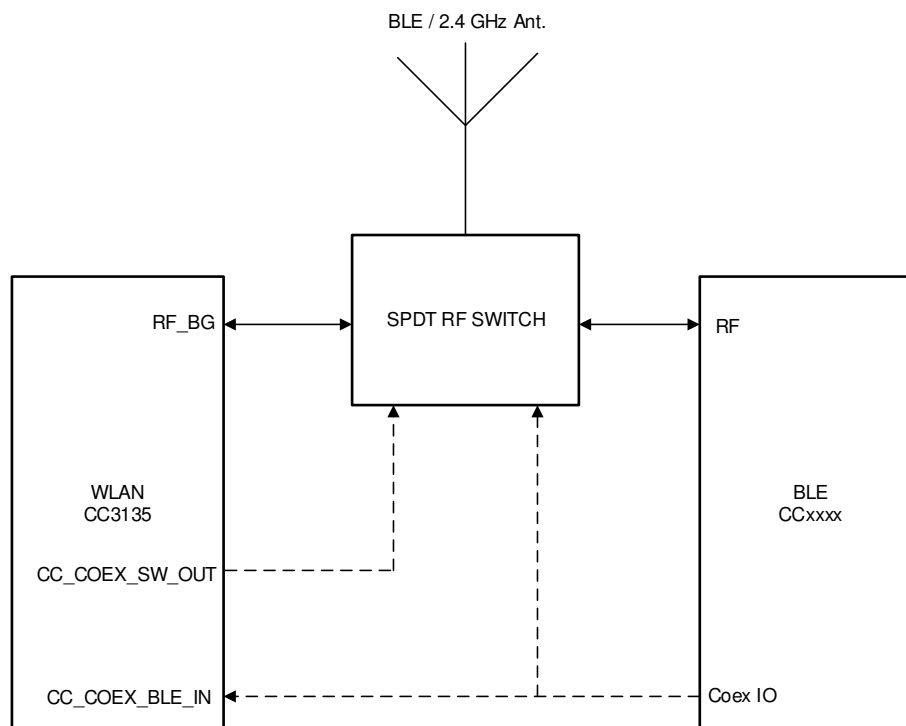

图 9-1. 2.4GHz, Single-Antenna Coexistence Mode Block Diagram
- 2.4GHz Wi-Fi band (see 图 9-1)